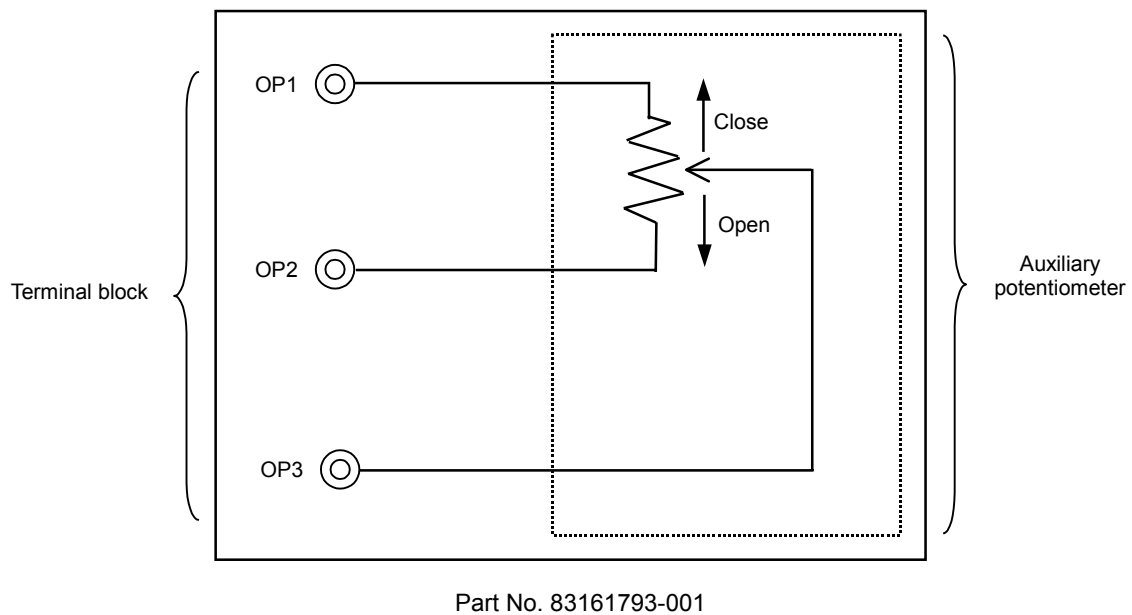

Figure 15. Wiring connection of auxiliary switches/auxiliary potentiometer
- ❗ The auxiliary switch and the auxiliary potentiometer are installed on site. (See Fig. 15.) Refer to the instructions attached to them.
- 3) Correctly connect the wiring to the terminals with M3.5 screws, referring to the wiring terminal diagrams shown in Figs. 10 to 13 and the wiring examples shown in Fig. 14. (For the wiring of the auxiliary switch or the auxiliary potentiometer, refer to Fig. 15.)